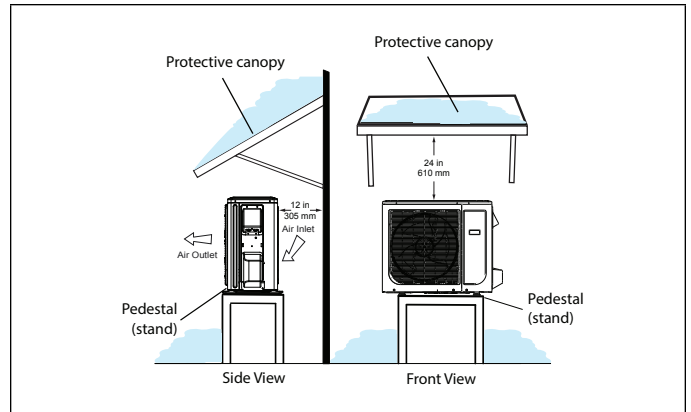
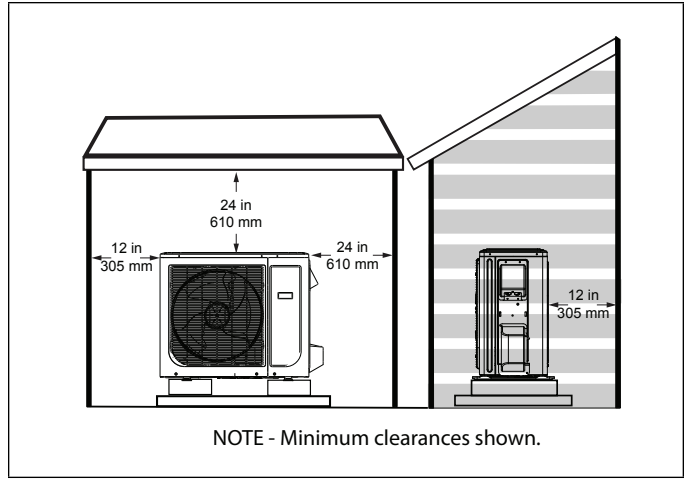

Figure 6. Outdoor Unit on Pedestal (Stand) and Protective Canopy
Figure 11. Dog House-Style Shelter
- The construction of a canopy or shade is suggested when the outdoor unit is placed in direct sunlight all day with temperatures exceeding 100°F (38°C). This is necessary because of an ambient limit control set to 122°F (50°C) to protect the electronics. If the outdoor unit is placed in direct sunlight it is possible that the limit may activate and shut down the unit. A canopy is recommended as illustrated in “Figure 6. Outdoor Unit on Pedestal (Stand) and Protective Canopy” on page 21 or “Figure 11. Dog House-Style Shelter” on page 22.
- Place outdoor unit away from overhanging roof lines which would allow water or ice to drop on, or in front of, coil or into unit. Construct a canopy as illustrated in “Figure 6. Outdoor Unit on Pedestal (Stand) and Protective Canopy” on page 21.
- Outdoor unit can be installed in a dog house style shelter as illustrated in “Figure 11. Dog House-Style Shelter”.